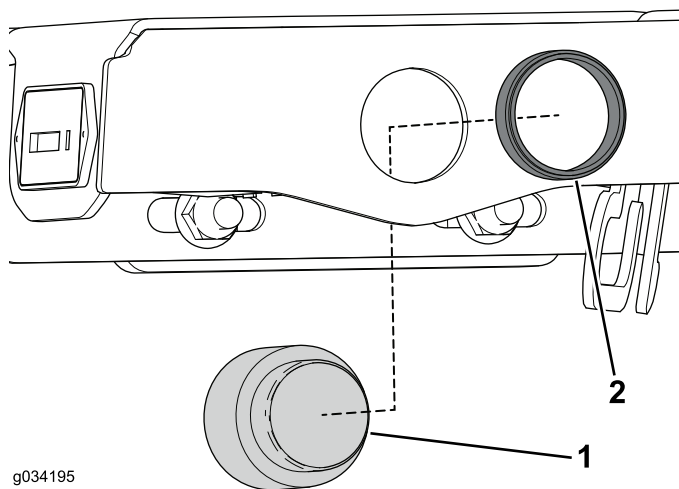

Figure 11
2. Remove the knurled-retaining ring on the alarm and remove it from the console assembly (Figure 11).